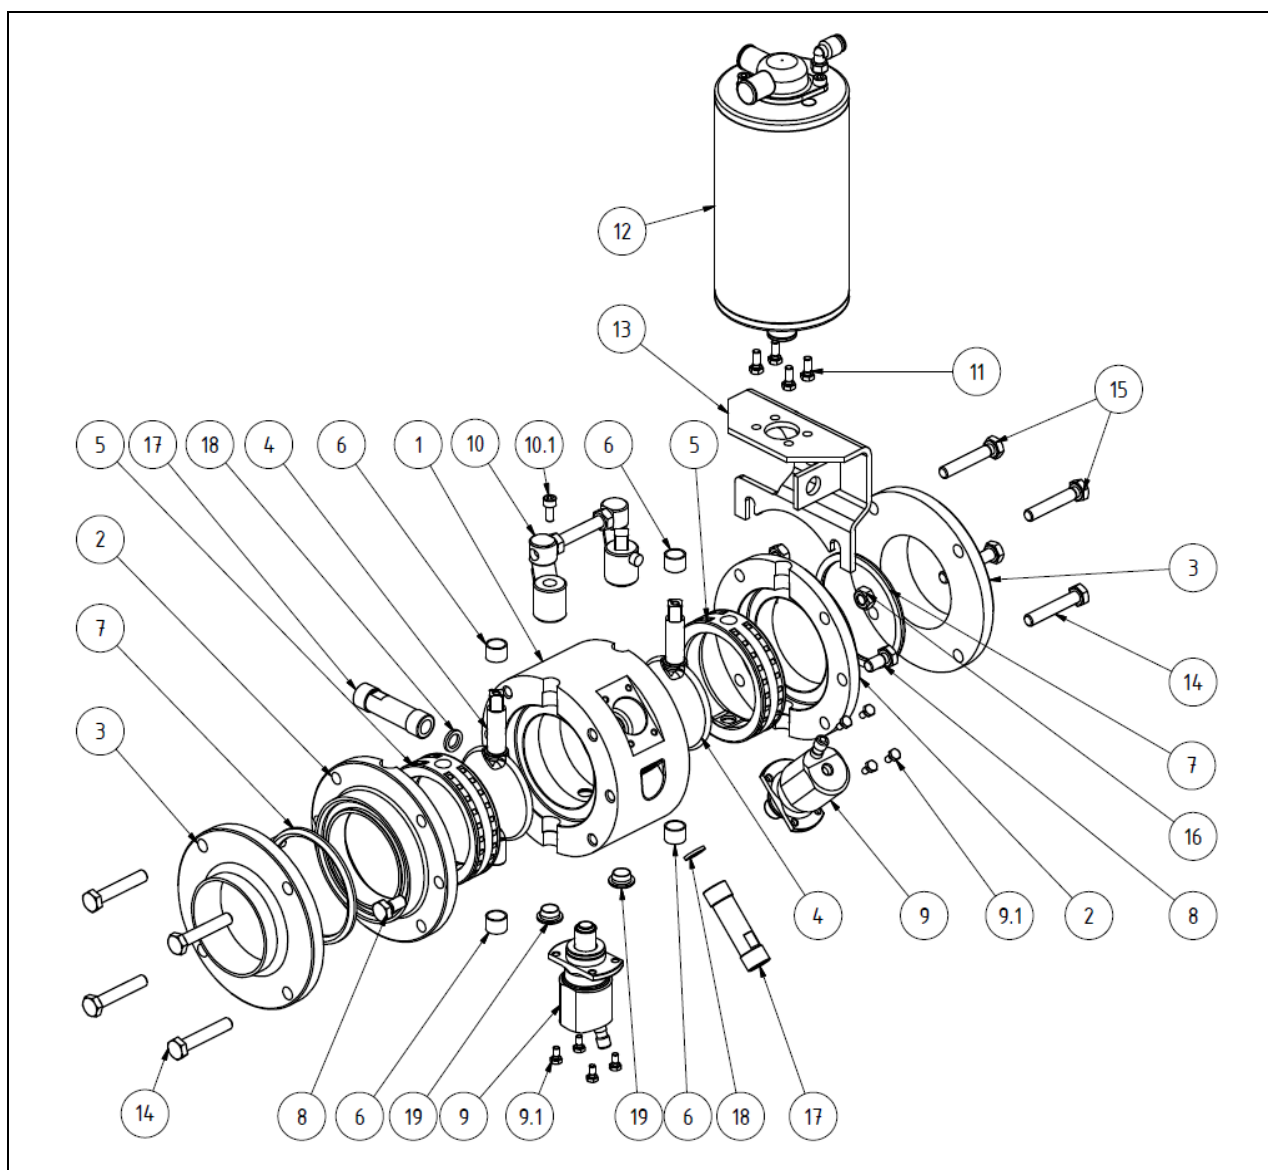

Fig. 6-4: Structure of the Leakage Butterfly Valve with pneum. Actuator
- Unscrew the socket-head screw (Fig. 6-4, item 10.1).
- Unscrew the nuts (Fig. 6-4, item 16) on the holding bracket of the pneumatic actuator.
- Pull out the entire “pneumatic actuator with holding bracket” assembly group (Fig. 6-4, items 12 and 13) in the direction of the axis.
- Pull out the shift combination (Fig. 6-4, item 10) in the direction of the axis.
- Release the screws (Fig. 6-4, item 8) and remove the inner flange (Fig. 6-4, item 2).
- Remove the butterfly valve seal with the valve discs (Fig. 6-4, items 4, and 5).
- Pull the bushings (Fig. 6-4, item 6) off the shafts of the valve disc (Fig. 6-4, item 4).
- Release the hexagon bolts (Fig. 6-4, item 9.1) from the housing and pull the auxiliary valves out of the valve seats
- Unscrew the rinsing and leakage connections (Fig. 6-4, item. 17) from the housing of the leakage butterfly valve.
- Remove the flat seals (Fig. 6-4, item 18).
Release and remove all screws (Fig. 6-4, items 14 and 15) from both flanges (Fig. 6-4, item 3).
- Clean the valve disc (Fig. 6-4, item 4) including the shafts, and lubricate the seal (Fig. 6-4, item 5) in the bearing shaft hole using approved grease (BERULUB SIHAF 1).
- Insert the long shaft of the valve disc (Fig. 6-4, item 4) into the hole in the gasket (Fig. 6-4, item 5).
- Press the gasket (Fig. 6-4, item 5) together and pull it over the short shaft.
- **NOTE:** When installing the gasket, the valve disc must not be pivoted into the sealing seat. Slide the bushings (Fig. 6-4, item 6) over the shafts of the valve disc (Fig. 6-4, item 4).
- **NOTE** Make sure that the long valve disc shafts with a square profile are opposite to the lower auxiliary valve holder. Insert the valve disc (Fig. 6-4, item 4) with attached seal (Fig. 6-4, item 5) into the bearing shaft hole in the housing (Fig. 6-4, item 1).
- Carefully place the inner flange (Fig. 6-4, item 2) on the housing without damaging the seals (Fig. 6-4, item 5) and screw in place using the screw group (Fig. 6-4, item 8).
- Set the valve disc (Fig. 6-4, item 4) to the "Closed" position.
- Insert the auxiliary valves (Fig. 6-4, item 9) into the seats of the housing and secure them with the screw group (Fig. 6-4, item 9.1).
- Fit the flat seals (Fig. 6-4, item 18) into the G 3/8 threaded holes in the housing (Fig. 6-4, item 1).
- Then tightly screw on the rinsing and leakage connections (Fig. 6-4, item. 17).
- Fit the pre-assembled valve back in the pipeline and screw in place by tightening the screw groups (Fig. 6-4, item 14) in a diagonal sequence. Make sure that the screws in the screw group with a continuous thread (Fig. 6-4, item 15) are fitted with one nut (Fig. 6-4, item 16) each between the flanges for the holding bracket.
- Loosen the screws (Fig. 6-4, item 11) on the underside of the actuator.
- Place the “Pneumatic actuator with holding bracket” assembly group (Fig. 6-4, items 12 and 13) together with the adapter with swivel lever onto the square drive of the valve disc shaft. Do not change the position of the valve disc when doing this.
- Tighten the nuts (Fig. 6-4, item 16).
- Tighten the screw group (Fig. 6-4, item 11) in a diagonal sequence.